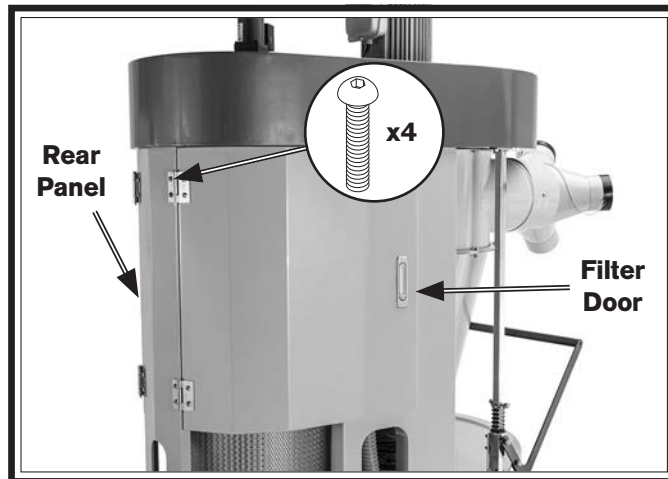

Figure 32. Filter door installed to rear panel.
- 40.** Attach left filter door to rear panel with (4) 5/16"-18 x 1/2" button head cap screws (see **Figure 32**).